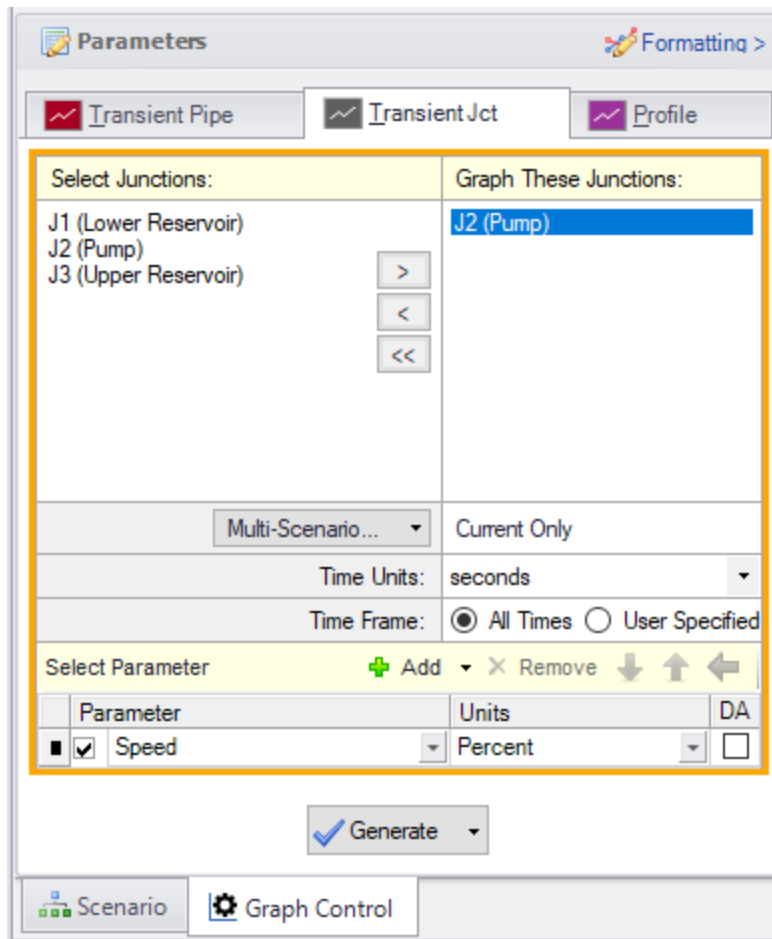

Figure 9: The pump speed is selected on the Transient Jct tab
2. Add J2 (Pump) to the Graph These Junctions list on the Transient Jct tab (see Figure 9).